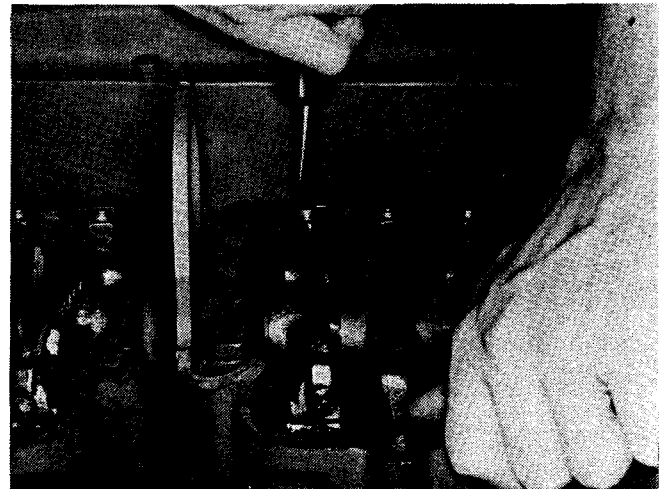

Fig. 2-64, (N114215). Adjusting valves
2. Loosen locknut and back off the adjusting screw. Insert feeler gauge between rocker lever and crosshead. Turn the screw down until the lever just touches the gauge and lock the adjusting screw in this position with the locknut. Fig. 2-64. Tighten locknut to 30 to 40 ft-lbs [4.1 to 5.5 kg m] torque. When using ST-669 torque to 25 to 35 ft-lbs [3.5 to 4.8 kg m].